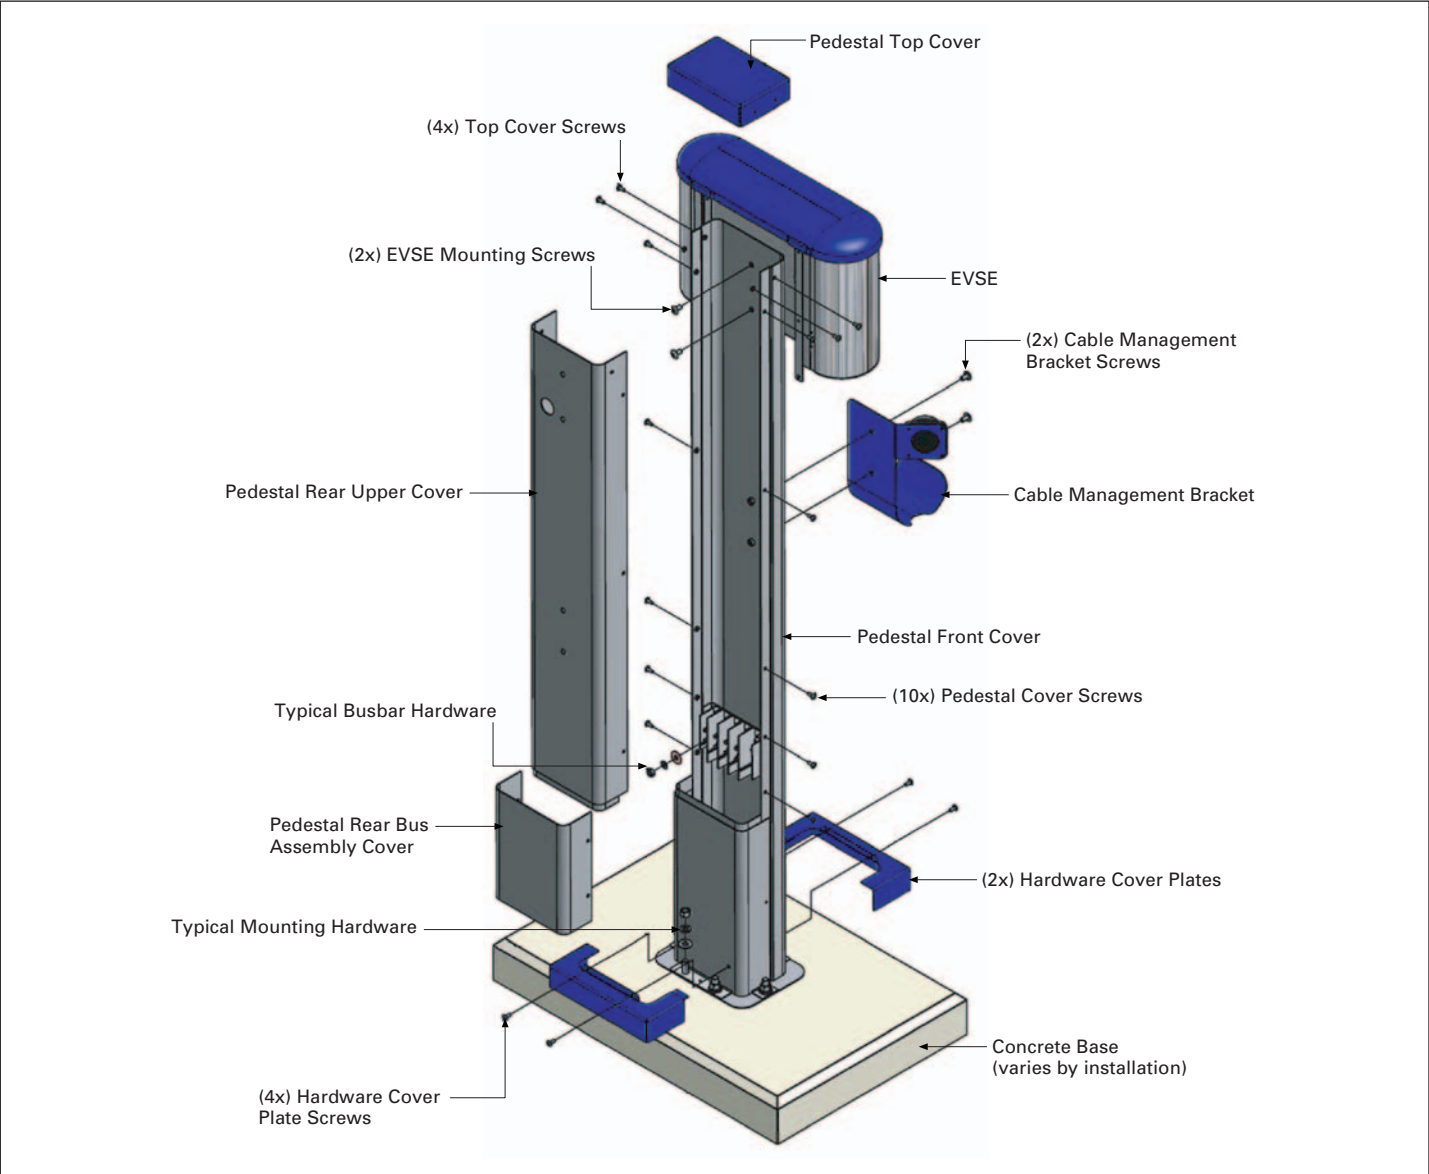

Figure 19. Single Pedestal Illustration
Step 3: Install the pedestal front cover onto the 3/8–16.00-inch studs as shown in the pedestal installation diagram in **Figure 19**, ensuring that feeder conductors are fed up through and out of the bus assembly opening. Insert a flat washer, a lock washer, and a nut onto each stud, and torque to 18 lb-ft.